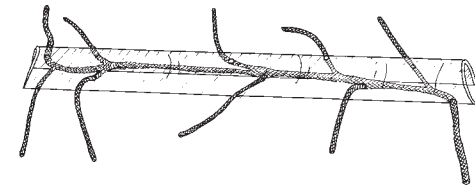

fig 11
3. Repeat this until each of the tributaries is poking out of its relevant hole **fig 11**.